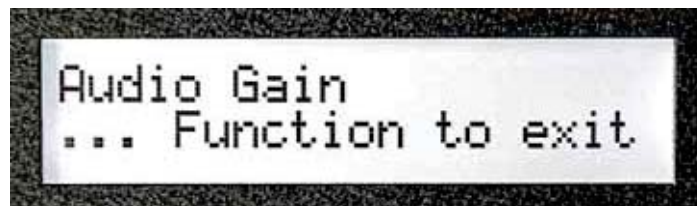

Figure 3-10. Press the FUNCTION Key to read Audio Gain
2. Pressing the FUNCTION key again will display the audio gain (see Figure 3-10).